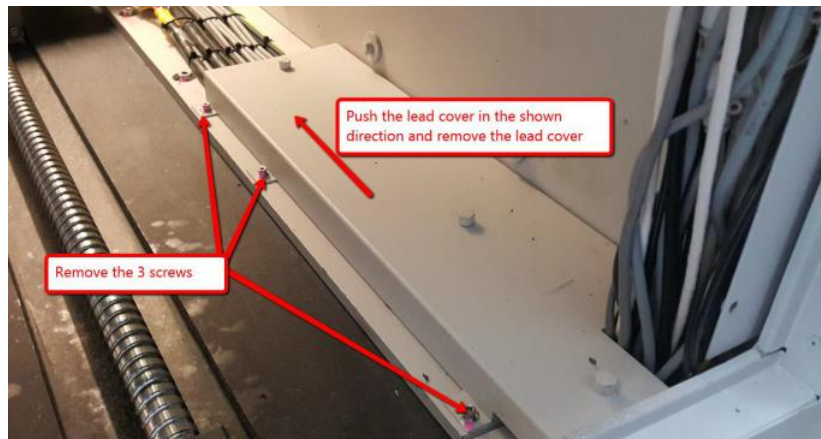

Figure 5 Lead Cover
5. Open 3 x screws and remove the lead cover as shown in the Figure 5
9. Remove the SHCS M3x20 (2X) to remove the Read Head Encoder from the Read Head Encoder Bracket as shown in the Figure 5